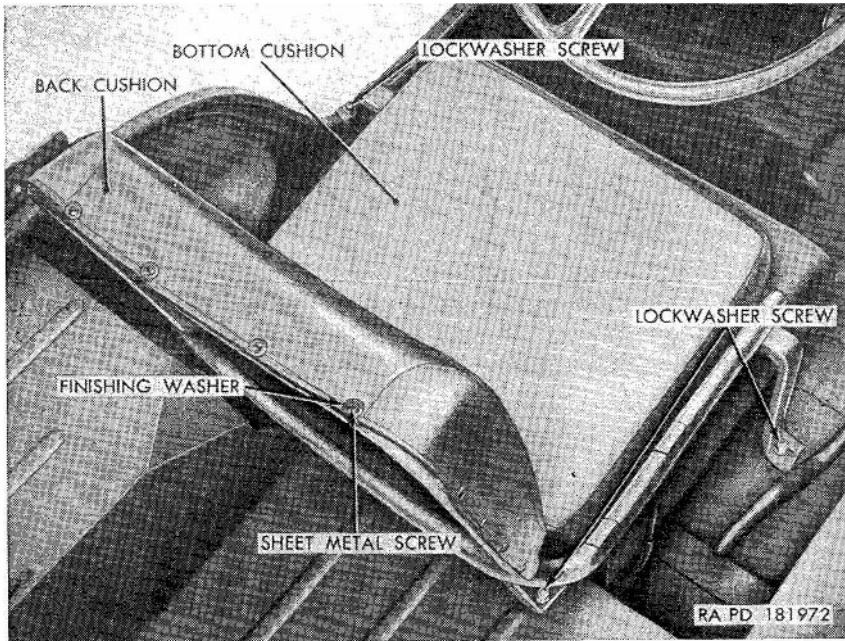

Figure 191. Driver's seat assembly (M38A1)—installed.
### a. *Driver's Seat Assembly* (fig. 191).
d. Driver's and Passenger Seat Cushion Assemblies (figs. 191 and 192).
- (1) **Removal.** Remove driver's seat assembly (a(1) above). Remove passenger seat assembly (b(1) above).